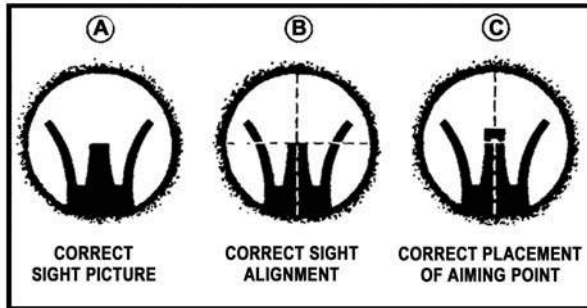

Figure 071-311-2004-3. Sight pictures
- a. Align the sights (figure 071-311-2004-3).
- (1) Center the top of the front sight post in the center of the rear sight (A in figure 071-311-2004-3).
- (2) Draw an imaginary horizontal line through the center of the rear aperture so that the top of the front sight post touches the line (B in figure 071-311-2004-3).